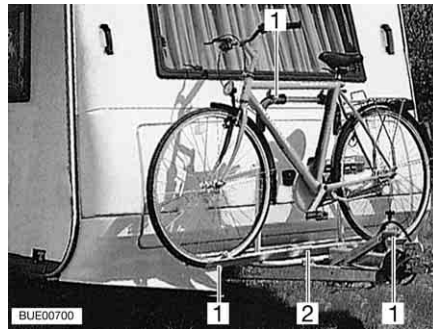

Fig. 12 Front bike rack
- Put the bikes on to the bike rack (Fig. 12,2) and secure them with quick straps (Fig. 12,1).